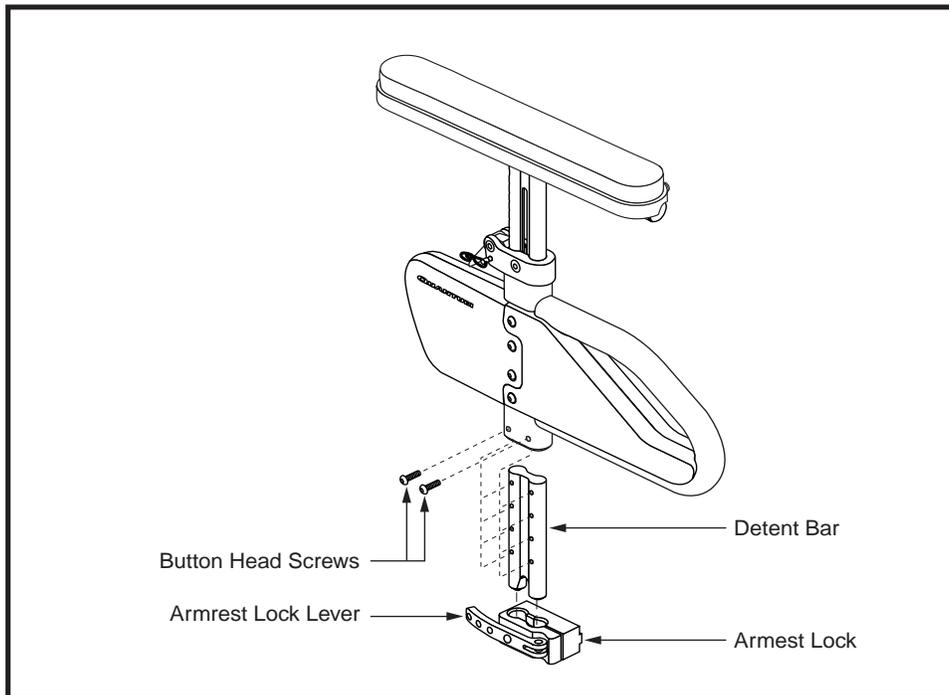

Figure 14. Single Post Quick Height Adjustable Armrest Bottom Height Adjustment
1. Remove the two button head screws from the detent bar. See figure 14.